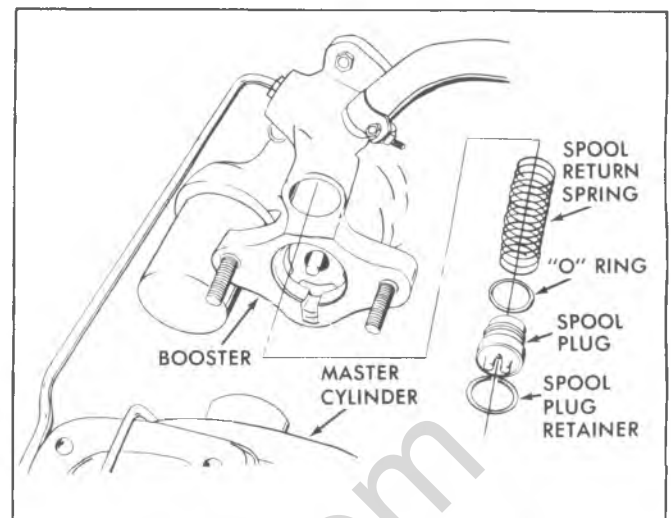

Fig. 5-9E—Spool Valve Plug Removal
17. Push spool valve plug in and use a small screwdriver to remove retaining ring (Fig. 5-9E).
2. Install "O" ring and spool valve plug (fig. 5-9E).